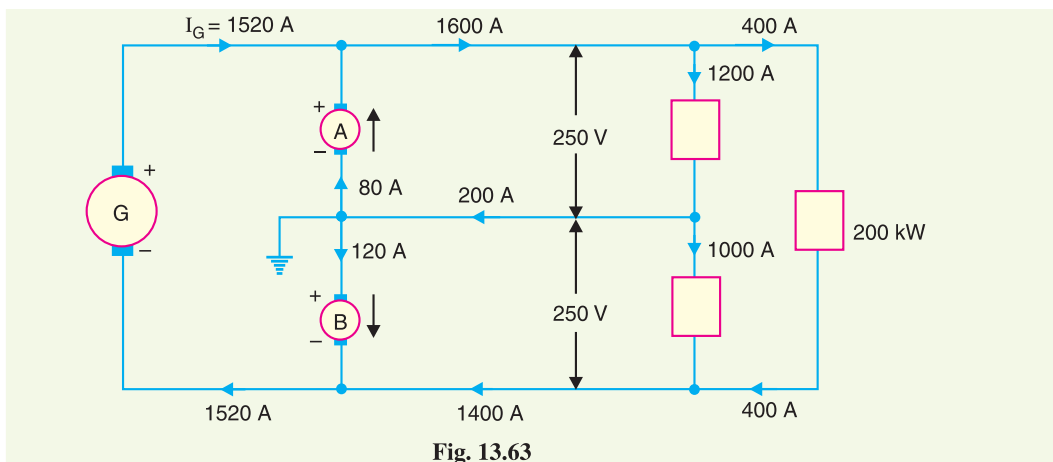

Fig. 13.63
**Solution.** The connections are shown in Fig. 13.63. As the positive side is more heavily loaded, therefore, machine A acts as a generator and machine B as a motor.